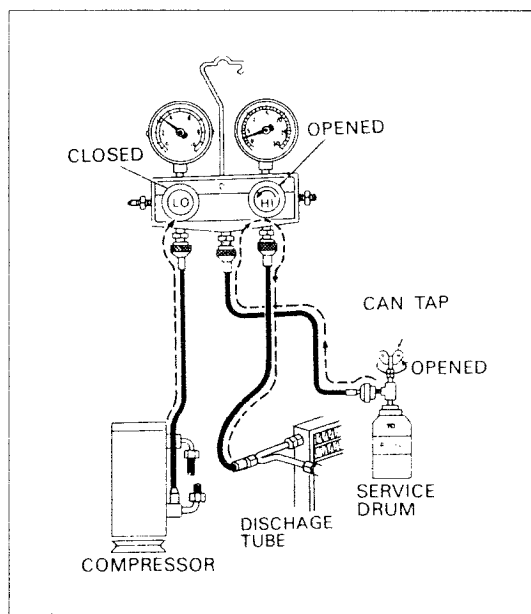
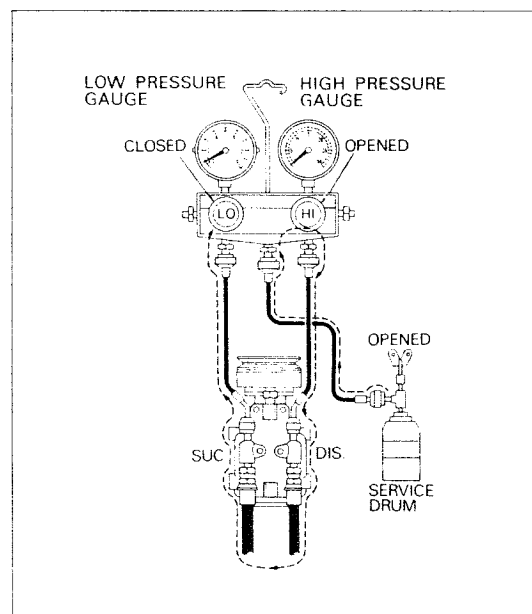

Fig. 98
Fig. 99
- 5) Open the high pressure hand valve to charge the refrigerant vapor into the system. See Fig. 98 or Fig. 99.